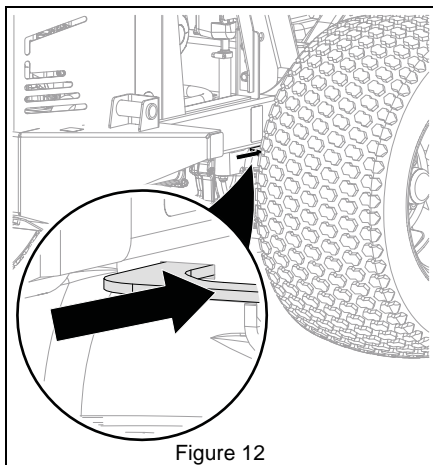

Figure 12
- Return transaxle bypass levers to operating position. See Figure 12.